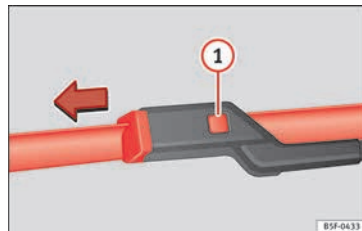

Fig. 79 Changing the front wiper blades
- Press and hold release button » Fig. 79  and pull gently on the wiper blade in the direction of the arrow.